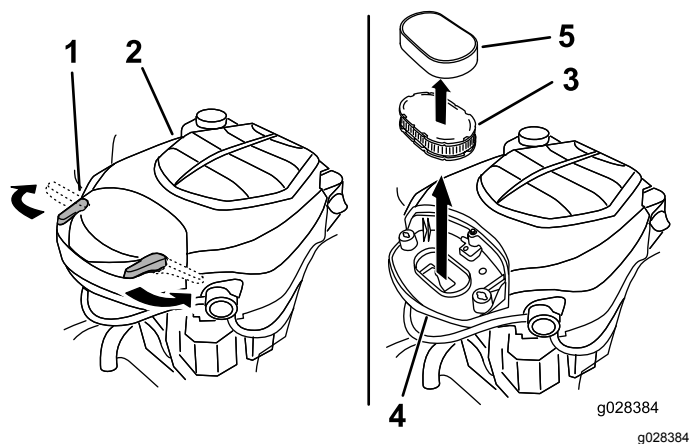

Figure 28
2. Remove the cover to access the air-cleaner element (Figure 28).
6. Install the cover and secure it with the latches (Figure 28).